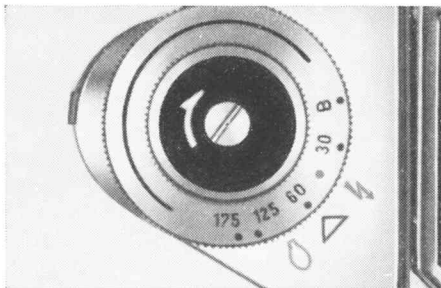

Fig. 32
shutter-speed setting ring (14) so that the red dot is opposite the lightning-flash symbol for electronic flash (⚡) (Fig. 32). The shutter will then be set to  $\frac{1}{60}$  sec. This setting can only be used for taking electronic-flash photographs at normal image distances (distance between lens and film). When using bayonet rings and extension tubes for close-up photographs, and also with long focus lenses, electronic flash units can only be employed by setting the shutter to B.